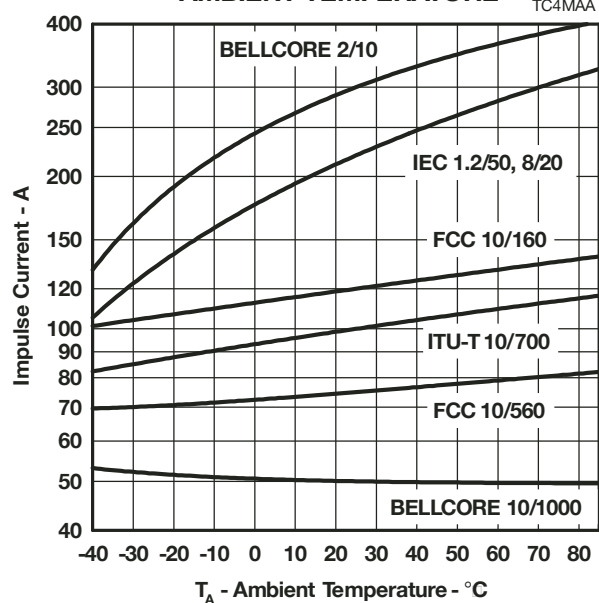
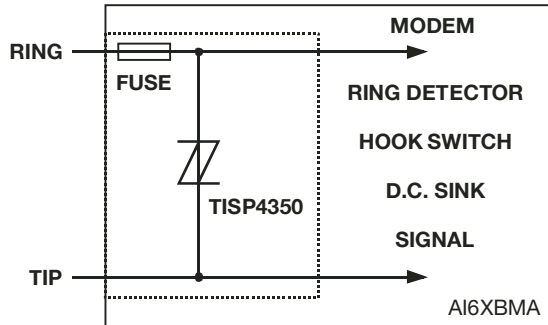
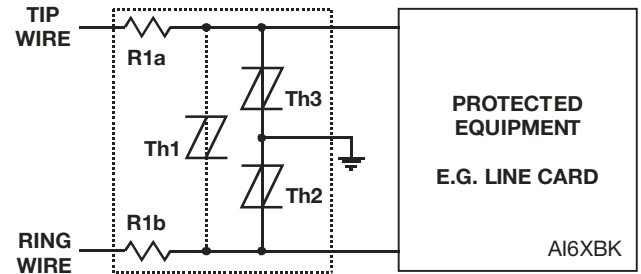
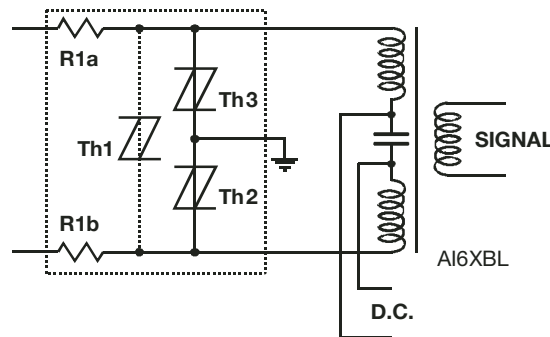

Figure 11.
Figure 14. Modem Inter-Wire Protection
Figure 15. Protection Module
Figure 16. ISDN Protection
4. See Applications Information and Figure 11 for current ratings at other temperatures.
For the FCC Part 68 10/560 waveform, the following values result. The minimum total circuit impedance is $800/75 = 10.7 \Omega$ and the generator's fictive impedance is $800/100 = 8 \Omega$. This gives a minimum series resistance value of $10.7 - 8 = 2.7 \Omega$. After allowing for tolerance, a $3 \Omega \pm 10\%$ resistor would be suitable. The 10/160 waveform needs a standard resistor value of 5.6Ω per conductor. These would be R1a and R1b in Figure 15 and Figure 16. FCC Part 68 allows the equipment to be non-operational after the 10/160 (conductor to ground) and 10/560 (inter-conductor) impulses. The series resistor value may be reduced to zero to pass FCC Part 68 in a non-operational mode, e.g. Figure 14. For this type of design, the series fuse must open before the TISP4xxxM3 fails. For Figure 14, the maximum fuse i^2t is $2.3 A^2s$. In some cases, the equipment will require verification over a temperature range. By using the rated waveform values from Figure 11, the appropriate series resistor value can be calculated for ambient temperatures in the range of $-40 \text{ }^\circ\text{C}$ to $85 \text{ }^\circ\text{C}$.
The protector characteristic off-state capacitance values are given for d.c. bias voltage, V_D , values of 0, -1 V, -2 V and -50 V. Where possible values are also given for -100 V. Values for other voltages may be calculated by multiplying the $V_D = 0$ capacitance value by the factor given in Figure 6. Up to 10 MHz, the capacitance is essentially independent of frequency. Above 10 MHz, the effective capacitance is strongly dependent on connection inductance. In many applications, such as Figure 15 and Figure 17, the typical conductor bias voltages will be about -2 V and -50 V. Figure 7 shows the differential (line unbalance) capacitance caused by biasing one protector at -2 V and the other at -50 V.